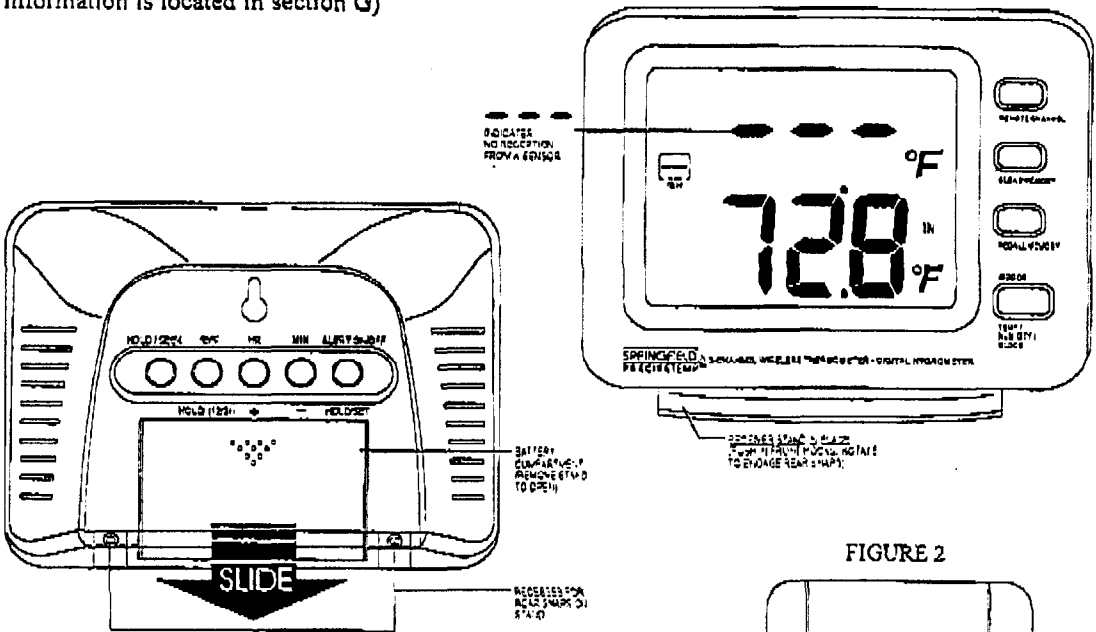

FIGURE 1
2. Press and slide open the battery door. Install 2 size AA batteries into the battery compartment according to polarity markings in the bottom of the battery compartment. Close the battery door. Install the separate stand as shown in Figure 1.